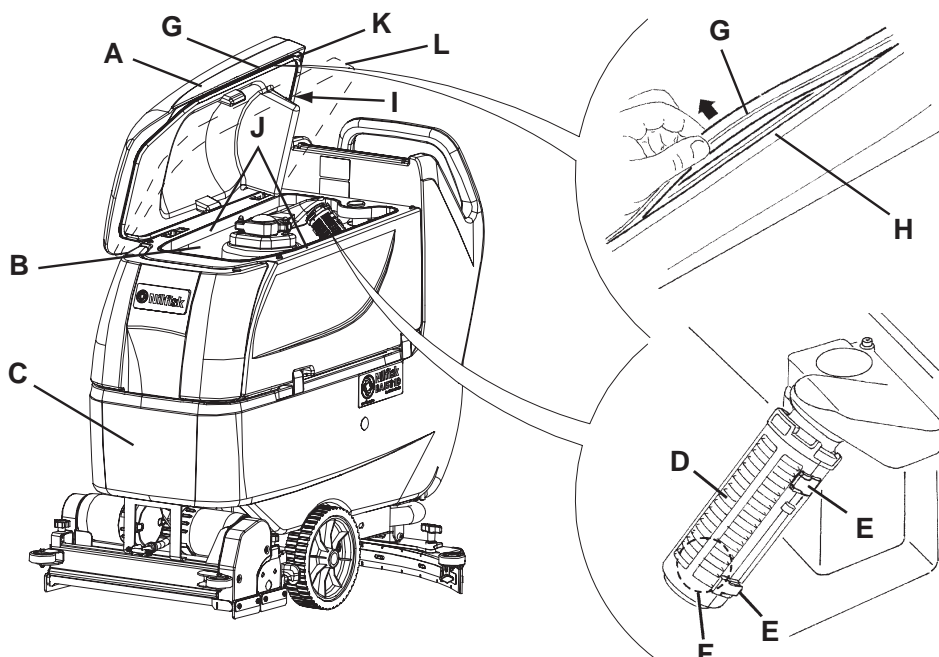

Figure 7
3. Open the cover (A, Fig. 7) to washing position (L).
4. Wash with clean water the cover (A), the tanks (B and C) and the vacuum grid with automatic shut-off float (D).